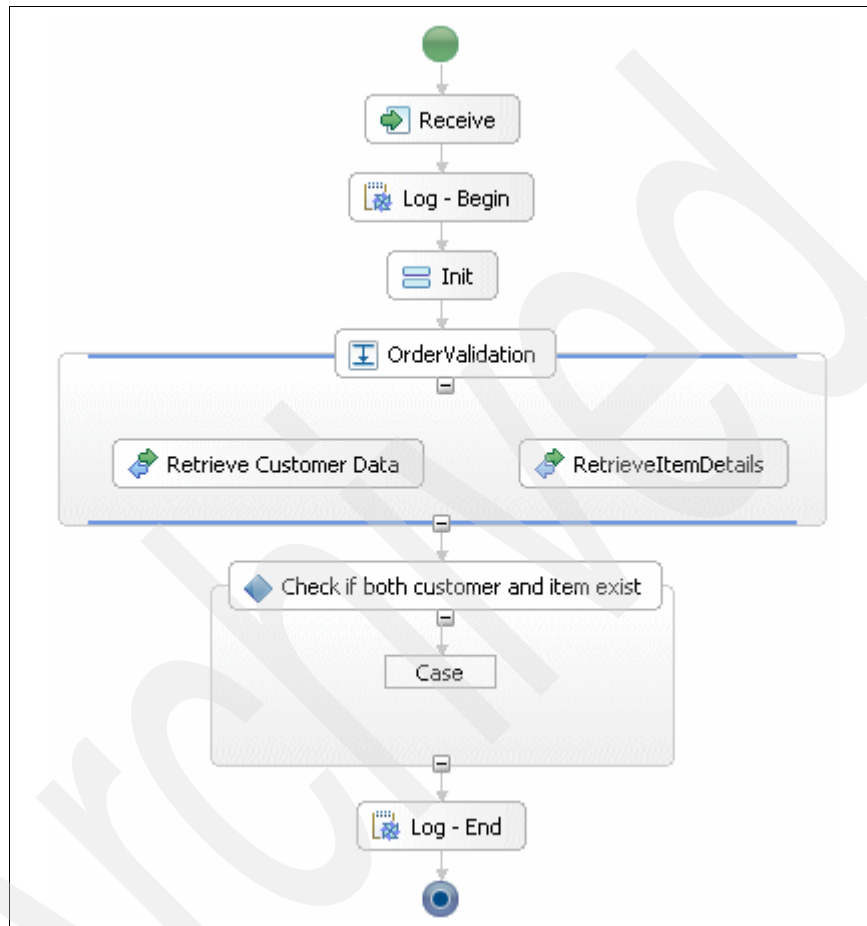

Figure 3-25 OrderManagementBP with Choice activity
1. Drop a Choice activity between OrderValidation and Log - End. Name the activity Check if both customer and item exist, as shown in Figure 3-25.